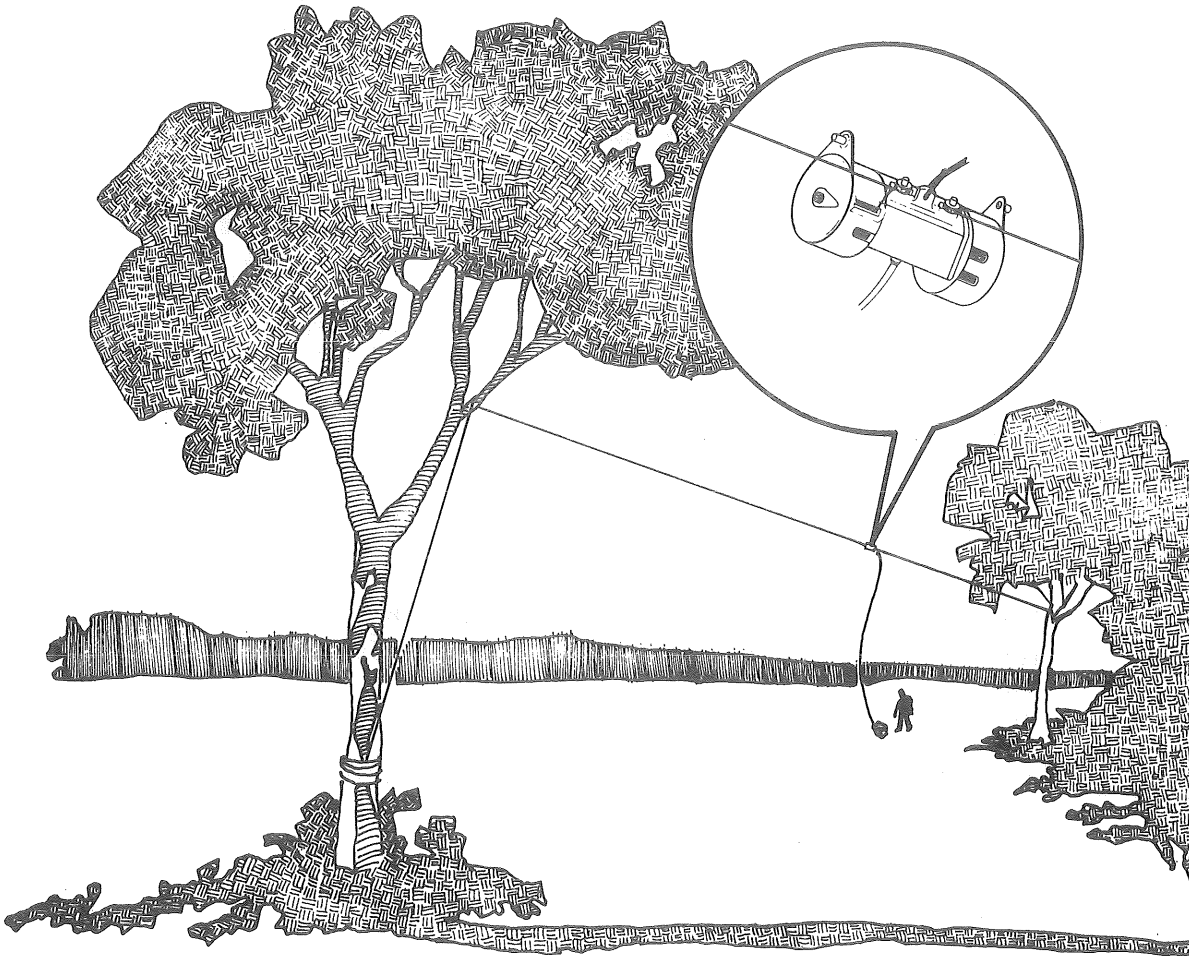

Figure 5. Collins Antenna 637T-2 dipole antenna fixture connections.
- (5) Connect the coaxial cable to the RF input connector on the antenna housing.
- (6) Raise the antenna to the desired height by passing each rope over a tree limb, tower or other vertical structure as shown in figure 5.